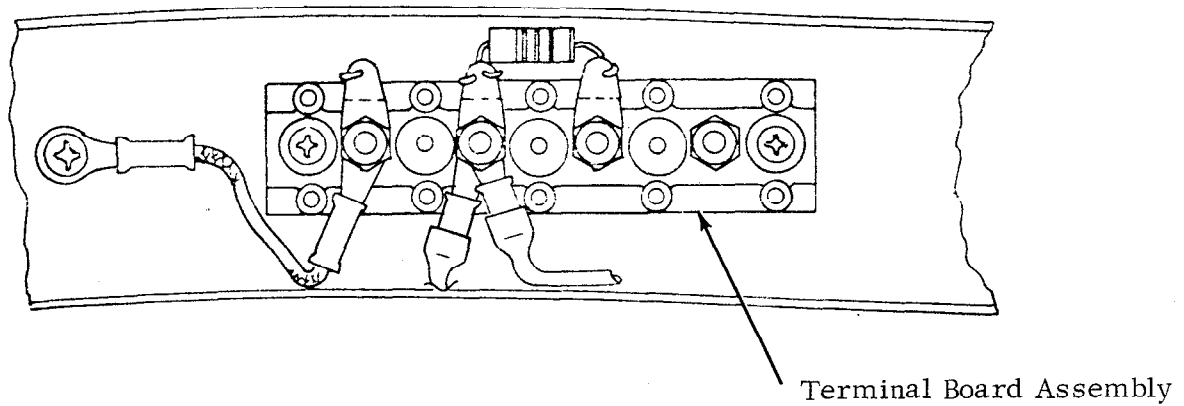

FIGURE 2 - Terminal Board After Modification
4. Re-position antenna leads to common pin and remove capacitor (if installed); reference attached sketch fig. 2.